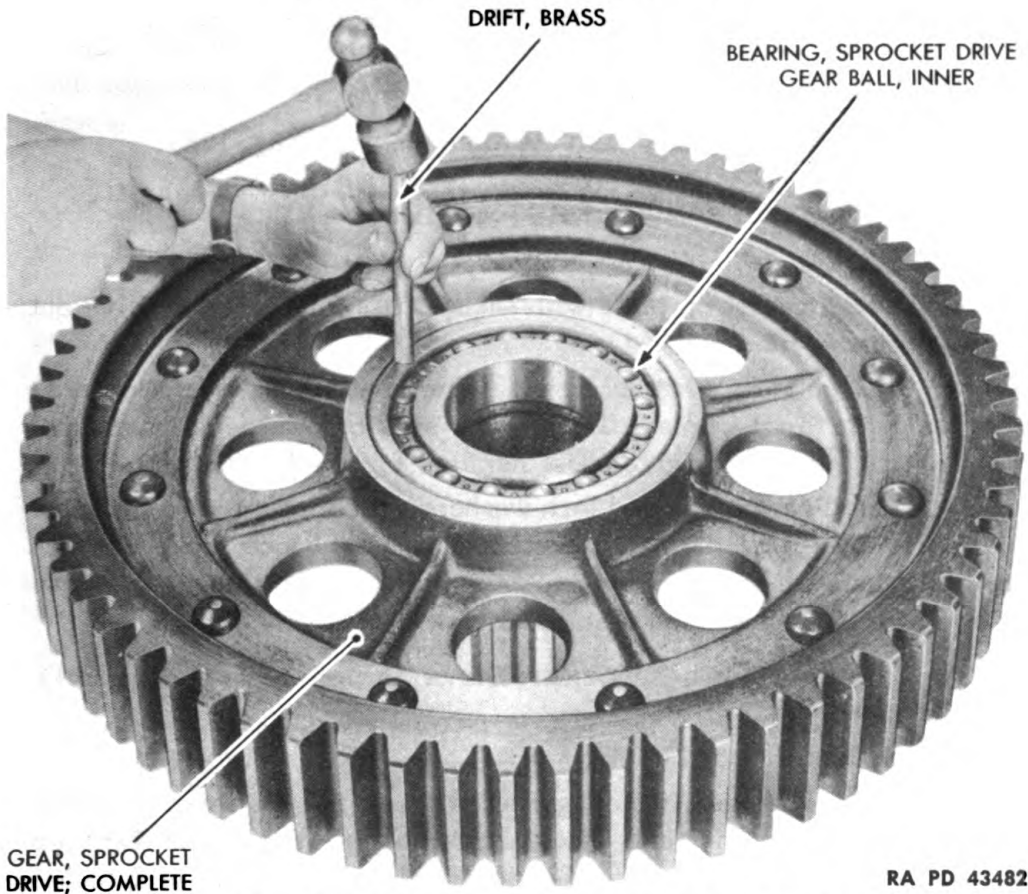

Figure 131 — Bearing in Sprocket Drive Gear; Complete Installation
(5) REMOVE INNER BEARING FROM SPROCKET DRIVE GEAR COMPLETE (reverse of fig. 131).